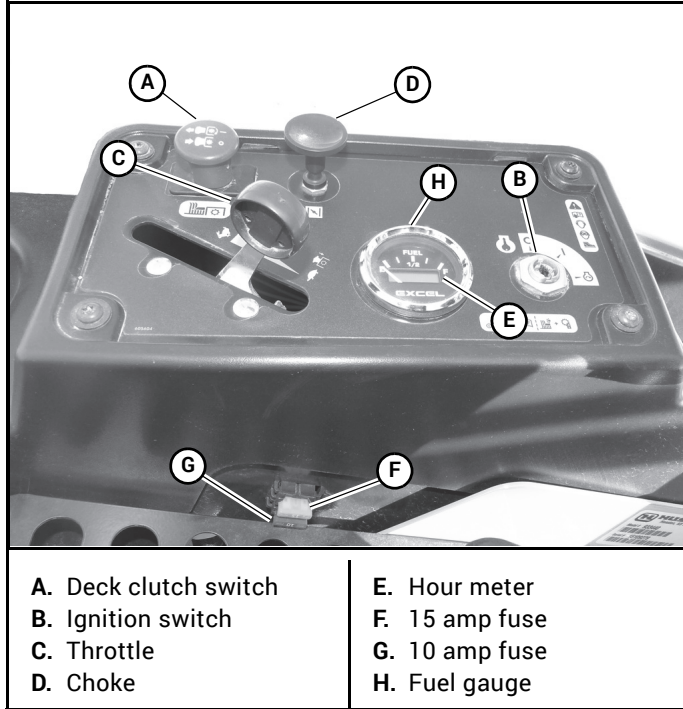
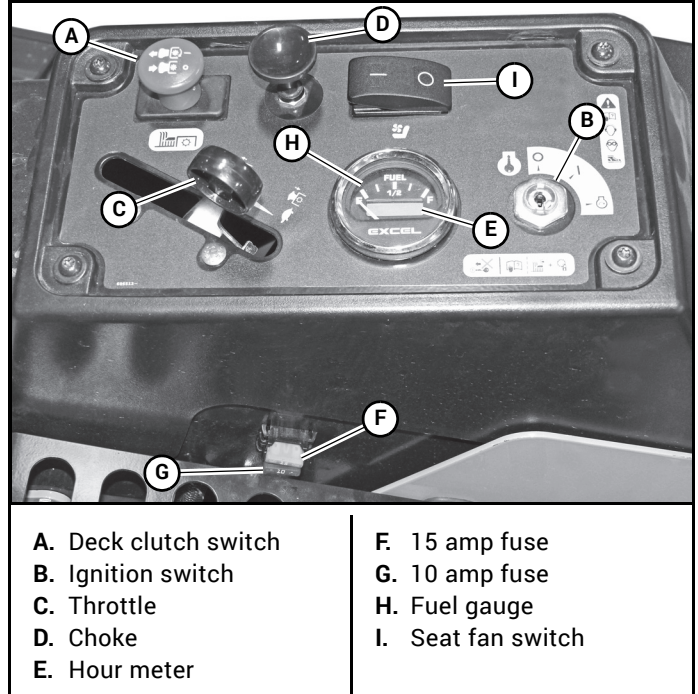

Figure 3-1
Figure 3-2
- A. **Deck clutch switch** (Figure 3-1 & Figure 3-2) – this switch engages the deck. Pull the switch up to engage and push the switch down to disengage the clutch.
- B. **Ignition switch** (Figure 3-1 & Figure 3-2) – a three position switch: “OFF”, “RUN”, and “START”. With the key inserted, rotate it clockwise to the “START” position; release the key when the engine starts, and the switch will automatically return to the “RUN” position.
- C. **Throttle control** (Figure 3-1 & Figure 3-2) – a cable is linked to the engine throttle for controlling engine speed. Move the lever forward to increase engine rpm, move the lever rearward to decrease engine rpm.
- D. **Choke control** (Figure 3-1 & Figure 3-2) – a cable is linked to manually operate the engine choke. When the lever is in the down position, the choke is in the “OFF” (run) position. When the knob is pulled up, the choke is in the “ON” (start) position. **Do not** operate the machine in the “ON” (start) position.
- E. **Electronic hour meter** (Figure 3-1 & Figure 3-2) – registers 1/10 hour increments up to 9,999.9 total hours. It
- F. **15 amp fuse** (Figure 3-1 & Figure 3-2) – Deck clutch – 15 amp, blade-type.
- G. **10 amp fuse** (Figure 3-1 & Figure 3-2) – Ignition/Safety system – 10 amp, blade-type.
- H. **Fuel tank gauge** (Figure 3-1 & Figure 3-2) – this gauge shows the fuel level in the fuel tank.
- I. **Seat fan switch** (Figure 3-2) – this switch turns the seat fan on or off.